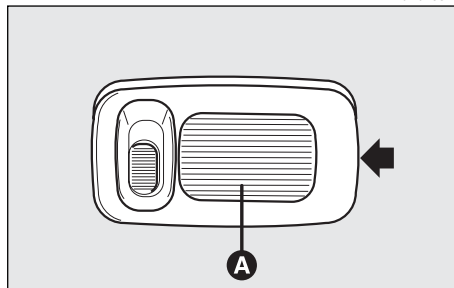

fig. 59
- Remove the roof light (**A**-fig. 59) levering in the point shown by the arrow.